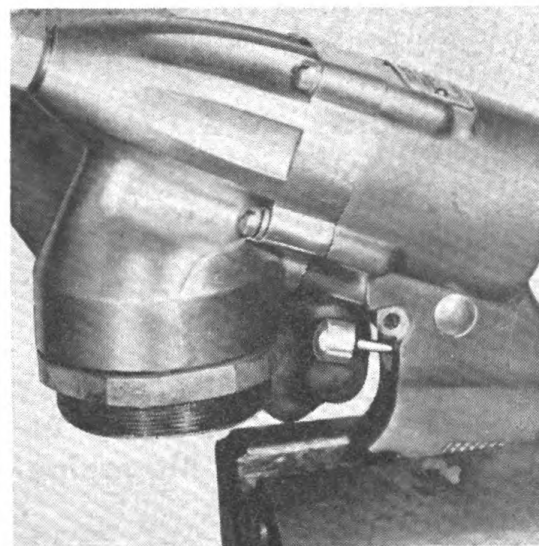

Figure 211
(2) Remove trigger valve assembly (See Figure 211) to see that it is free from dirt and in good condition.